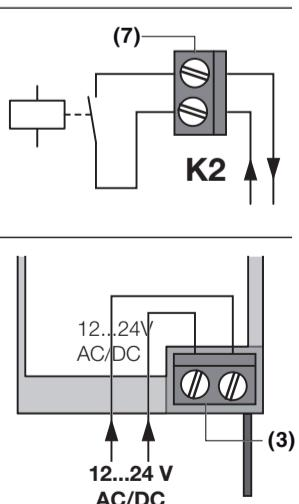

Fig. 3
- (1) Receiver
- (2) Aerial
- (3) Connecting lead 230 V AC (approx. 900 mm long)
- (4) LED
- (5) Programming button P
- (6) Channel 1 connecting terminal (volt-free)
- (7) Channel 2 connecting terminal (volt-free)
**3 Before operation****3.1 Connecting the receiver (Fig. 3)**
- (3) Connecting terminal for supply voltage (12 ... 24V AC/DC)
- (6) Volt-free relay contact (normally open contact), max. switching capacity 230 VAC, 5A (channel 1)
- (7) Volt-free relay contact (normally open contact), max. switching capacity 230 VAC, 5A (channel 2)
- (1) Récepteur
- (2) Antenne
- (3) Câble de raccordement 230 V CA (env. 900 mm de long)
- (4) DEL
- (5) Touche de programmation P
- (6) Borne de raccordement canal 1 (sans potentiel)
- (7) Borne de raccordement canal 2 (sans potentiel)
**3 Avant la mise en service****3.1 Raccordement du récepteur (fig. 3)**
- (3) Borne de raccordement pour tension d'alimentation (12 ... 24V CA/CC)
- (6) Contact à relais sans potentiel (contact de fermeture), puissance de commutation max. 230 V CA, 5 A (canal 1)
- (7) Contact à relais sans potentiel (contact de fermeture), puissance de commutation max. 230 V CA, 5 A (canal 2)